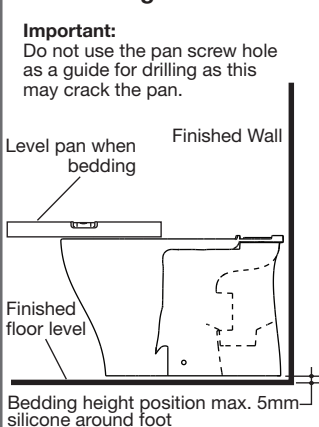

Fig. 4
- 4- Run a bead of acetic cured silicone sealant at a height of 8mm approximately fully around the foot of the pan which contacts the floor. Use Wedges around the foot base (if required) so that the **maximum height of silicone sealant is not greater than 5mm on completion on bedding**, as detailed in **Fig. 4**.